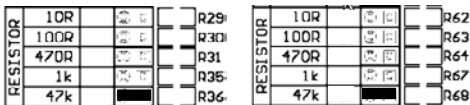

Figure 3: Left and right channel jumper banks default setting for resistance load adjustments
There are five (5) different settings available for setting the resistive load; 10 Ω , 100 Ω , 470 Ω , 1k Ω and 47k Ω (refer to figure 3).